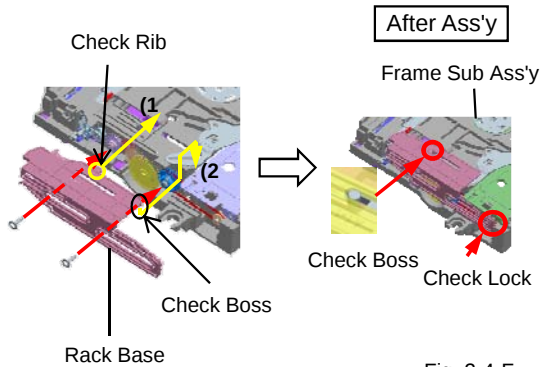

Fig. 2-4-F
2.4: RACK BASE/GEAR MIDDLE4/BELT LOADING/GEAR PULLEY/GEAR MIDDLE3/GEAR MAIN/GEAR MIDDLE1/GEAR MIDDLE2/LOADING MOTOR/PULLEY MOTOR/CLAMPER/MAGNET/PLATE CLAMPER/SPRING LIFTER/PLATE LIFTER/LEVER GUIDE/LOADING MOTOR PCB/RACK DISC SENSOR R/RACK DISC SENSOR L/SPRING RACK D SENSOR/GEAR RACK DISC (Refer to Fig. 2-4-A)
1. In case of the Gear Pulley installation, check if the value of the Fig. 2-4-B is correct.
2. In case of the Clamper Ass'y installation, check if the value of the Fig. 2-4-C is correct.
3. When installing the wire of the Loading Motor PCB Ass'y, install it correctly as Fig. 2-4-D.
4. In case of the Plate Lifter Ass'y installation, install correctly as Fig. 2-4-E.
5. In case of the Rack Base installation, install correctly as Fig. 2-4-F.